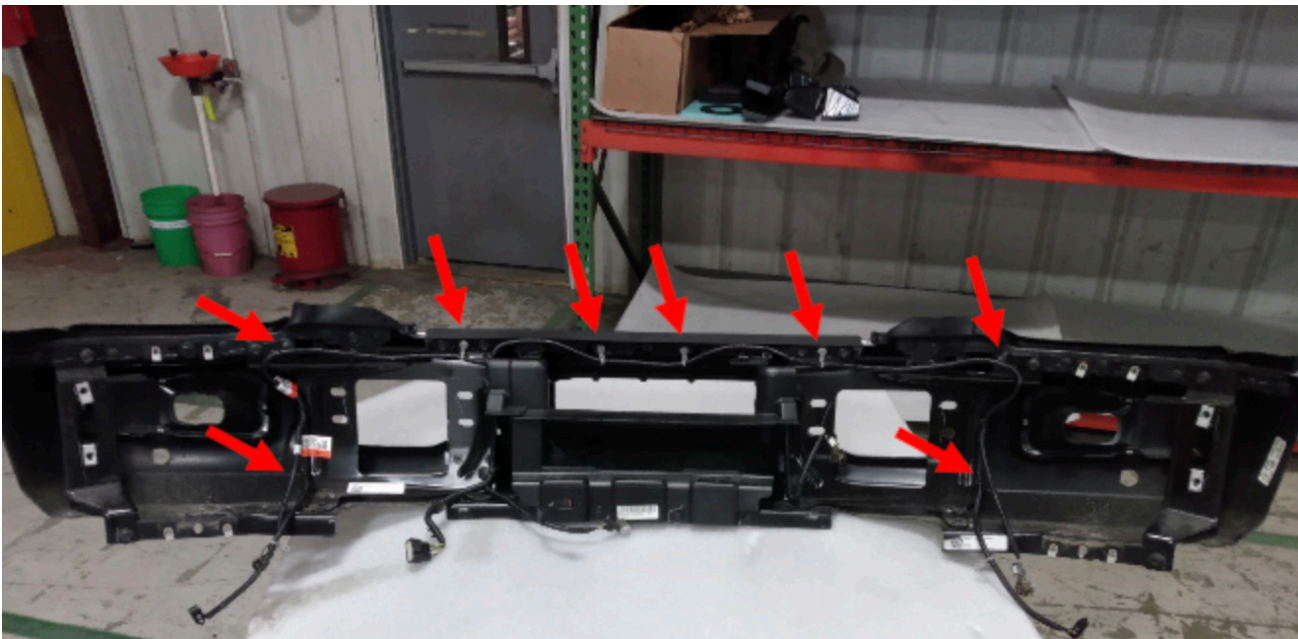

Figure 12
12. Using a panel pry tool, remove the push pin clip. Figure 12